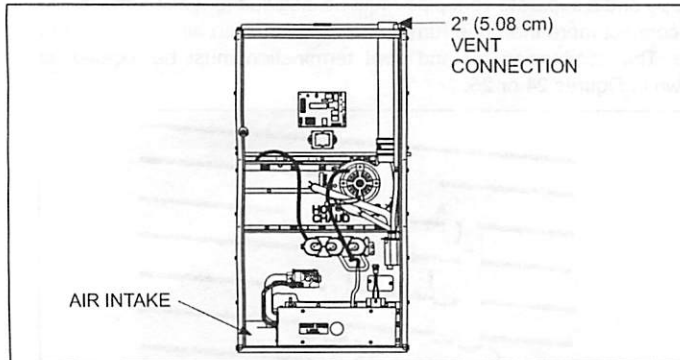

FIGURE 26: Sealed Combustion Air Intake Connection and Vent Connection
1. **OUTDOOR COMBUSTION AIR:** This is a sealed combustion air configuration where the combustion air is supplied through a PVC or ABS pipe that is connected to the PVC coupling attached to the burner box and is terminated in the same atmospheric zone as the vent. This type of installation is approved on all models. Refer to Figures 26 and 28.